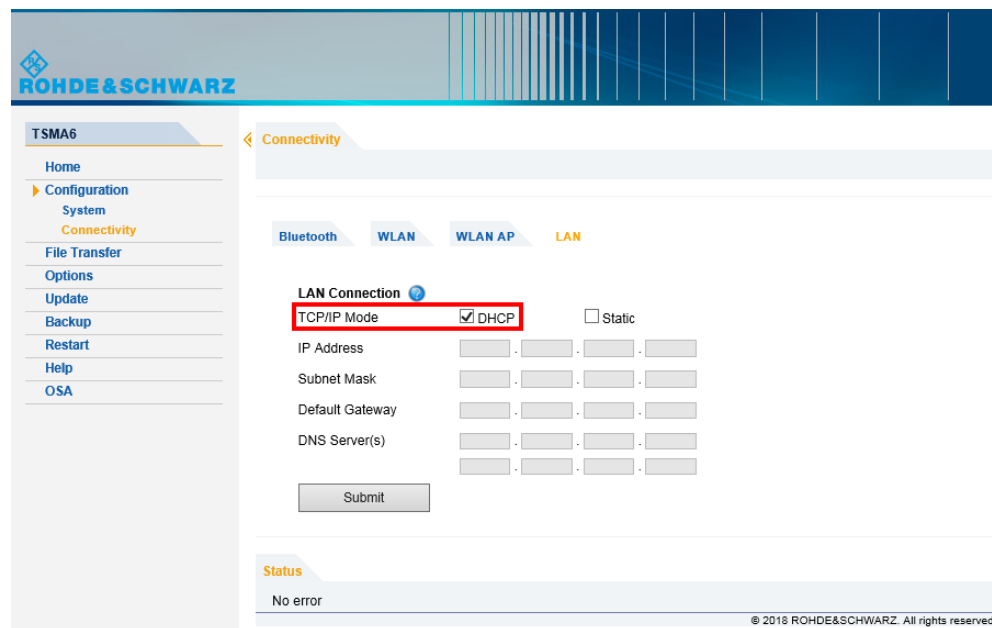

Figure 11-5: Web GUI - LAN Connection
3. Check the setting of the R&S TSM A6 LAN port (see Figure 11-5). The default setting is "DHCP".